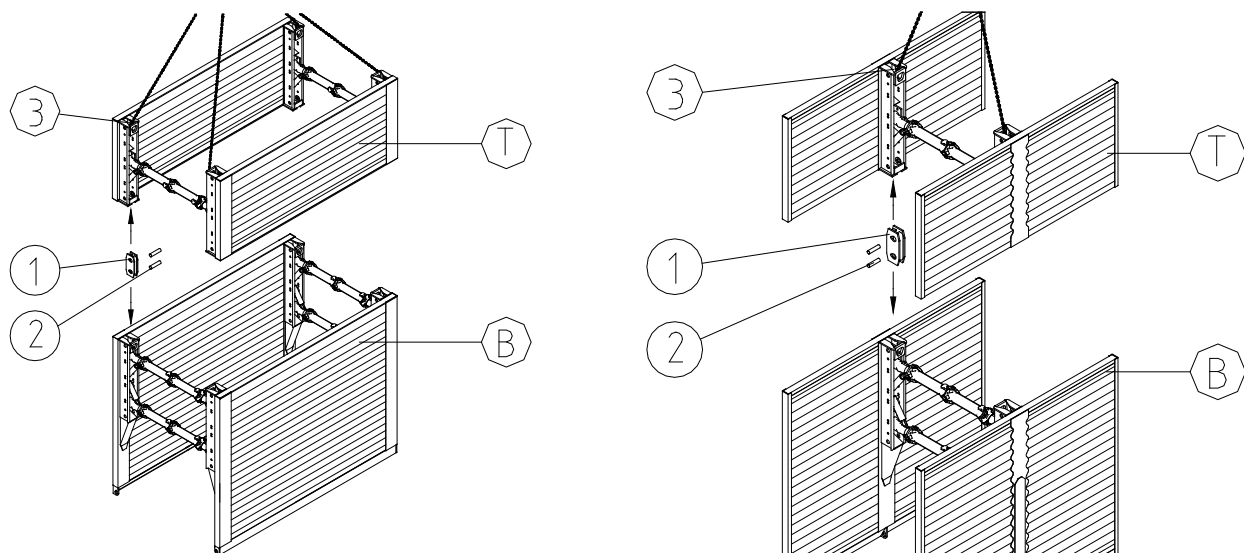

Figure 1: System overview of edge- and center-supported shoring units
For the insertion process, the base (B) and top modules (T) must be assembled outside the trench and the system inserted as a single unit into the trench if trench boxes with top boxes are required to secure deeper trenches (Figure 1).
The sling must be exclusively attached to the envisaged attachment holes (3, erector heads (see Figure 1)) at at least four points (ES) or two points (CS).